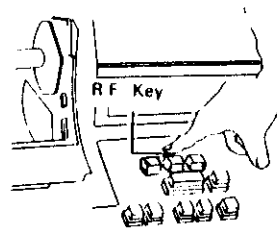

Fig. 3
- 4) Depress the R.F. key until the paper end appears at the receipt paper outlet. If the paper ends do not come out of the receipt paper outlet after the R.F. key is depressed, for a while, the paper is not properly threaded through the paper feed mechanism. Push the paper end through the receipt paper inlet while keeping the R.F. key depressed (see Fig. 3).